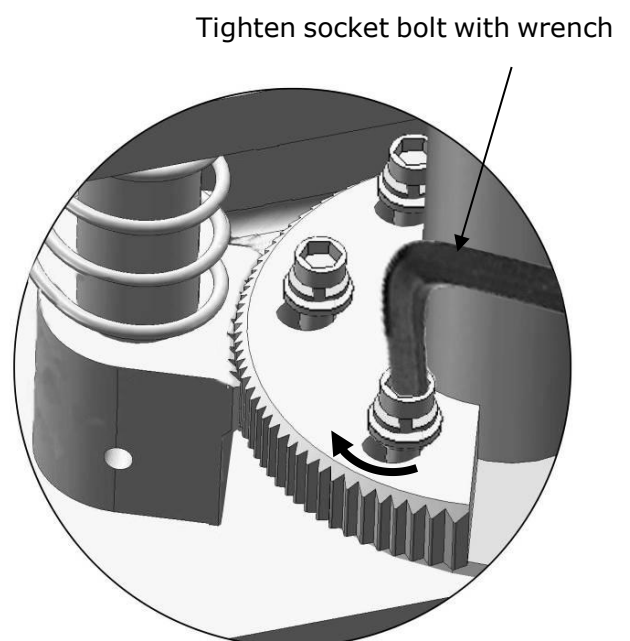

Fig. 39
4. Adjust moon gear and arm locks to make it to be meshed, then tighten the socket bolts of arm lock (**See Fig.39**).